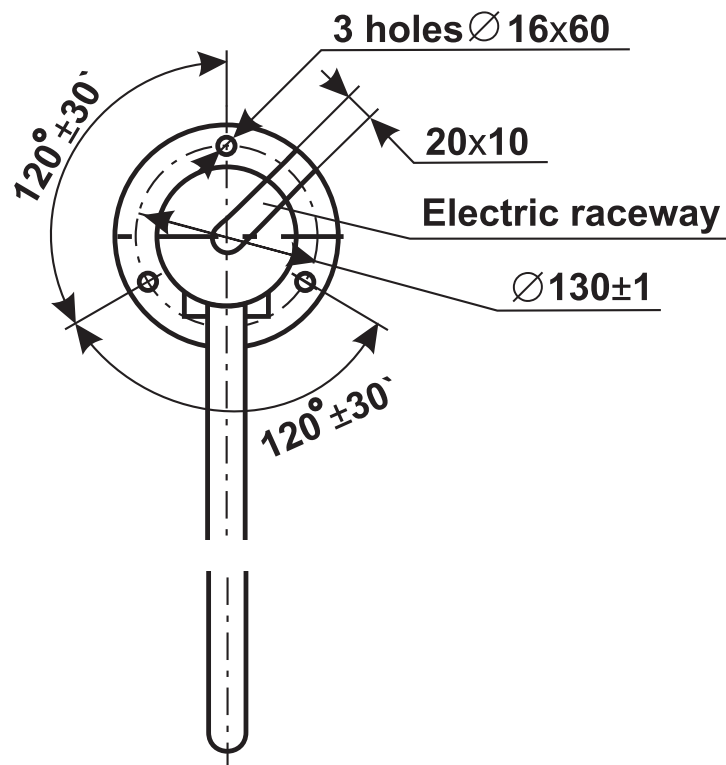

Figure 6. Mounting hole pattern
- verify the wicket gate serial number on inner side of the cover (8) against the serial number in the warranty coupon;
- prepare mounting holes according to the Figure 6;